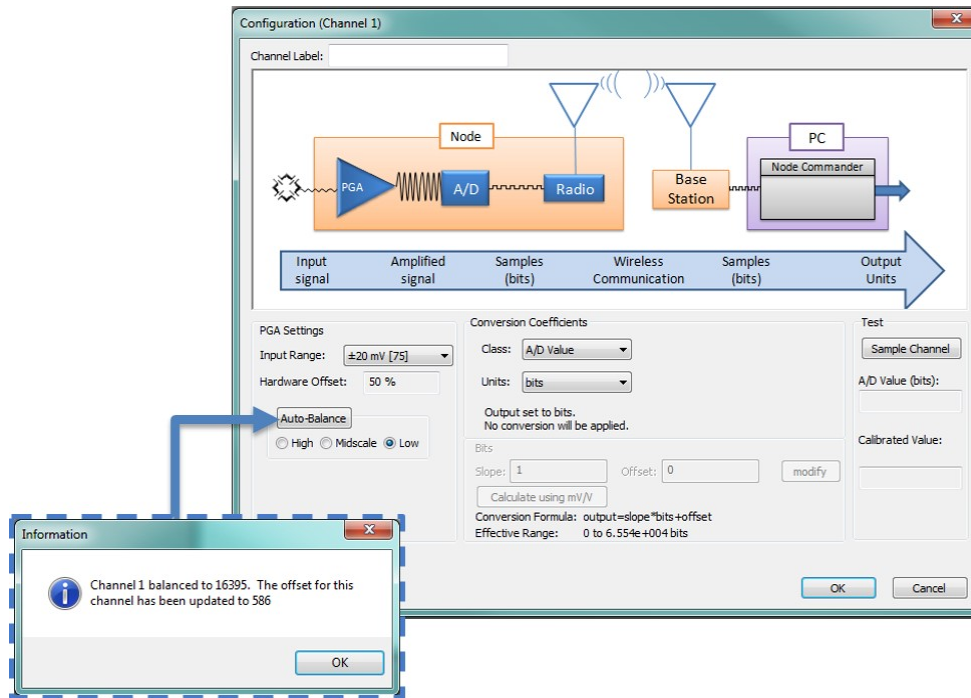

Figure 5 - Channel Settings
- d. Select the Auto Balance button (Figure 5 - Channel Settings). An information window will appear indicating the channel has been auto-balanced. In this example, the auto-balance and offset value (16395 and 586, respectively) are typical for a 16-bit node set to the low end of the input scale. A 12-bit node would be ~1024 with a similar offset.